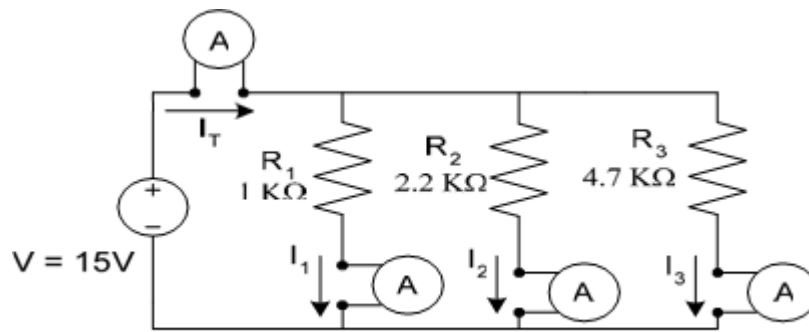

Figure: 2.7
4. Now construct the circuit as shown in Fig 2.7. Turn on the DC power supply and set the DC supply to 15V by using Voltmeter.